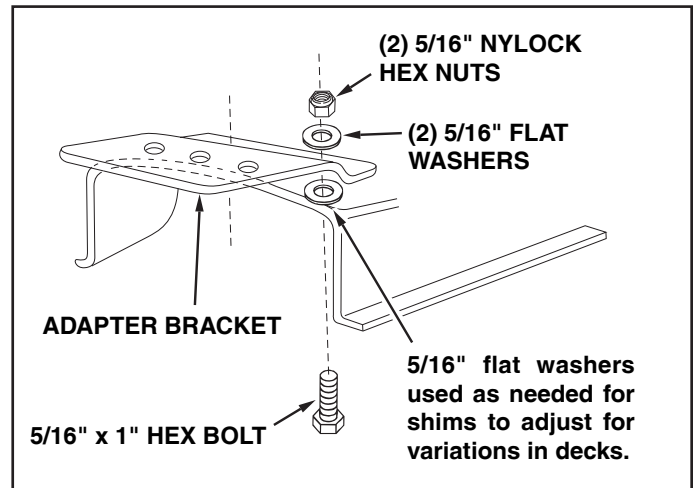

FIGURE 26
- Assemble the adapter bracket to the deck using two 5/16" x 1" hex bolts, 5/16" flat washers and 5/16" Nylock hex nuts. See figure 26.
NOTE: It may be necessary to use extra 5/16" flat washers to shim under the bracket next to the deck surface. Ten extra washers have been furnished as shims. See figure 26.